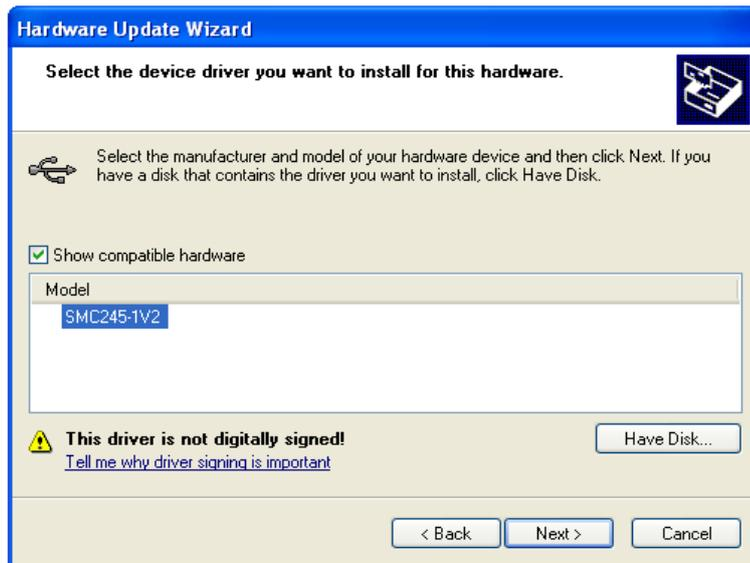

Fig. 49
- Choose “SMC245-1V2”. Click “Next” (*Fig. 49*).